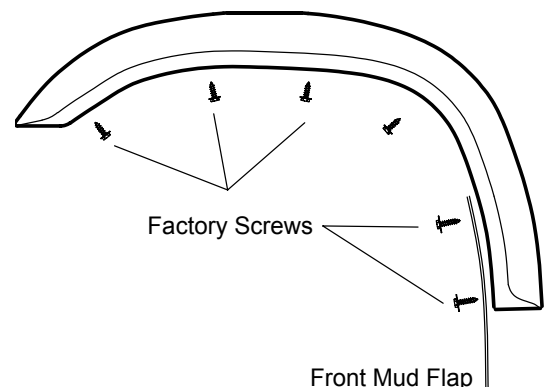

FIGURE 2
- (A) Remove the screws securing the mud flap and factory fender trim (when installed) along inside rim of wheel wells.
- (B) Drill 5/16" holes along the inside surface of the flare using indents as a guide.
- (C) Secure flare and mud flap to fender through 5/16" holes using screws removed in Step 3A or screws provided with kit. See FIGURE 2. Insert screws through the flare into the plastic screw retainers along the inside of the wheel well rim.
- (C) Secure flare to fender through 5/16" holes using screws removed in Step 4A and/or screws provided with kit. Insert screws through flare into plastic screw retainers along inside of wheel well rim. Reattach mud flap. (The mud flap may require slight trimming for proper fit.)